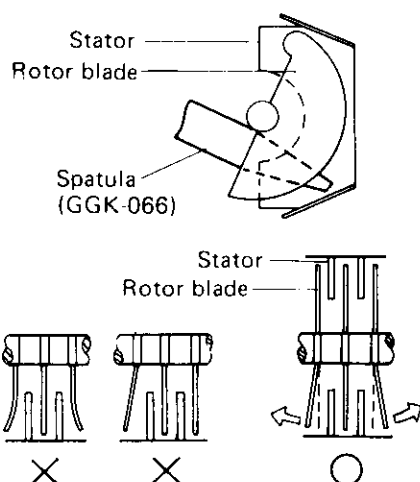

Fig. 8-1 Adjustment of tuning capacitor
- The tuning coils in the FM front end does not have an adjusting core. Consequently, tracking adjustments at 90MHz are performed by regulating the gap between rotor and stator of the tuning capacitors (VC-1, VC-2, and VC-3). The expression "adjust VC (VC-1, VC-2, and VC-3) found in the text means that the two outer rotor blades of each of these tuning capacitors are to be extended outwards with spatula (Part No. G GK-066) as shown in Fig. 8-1.